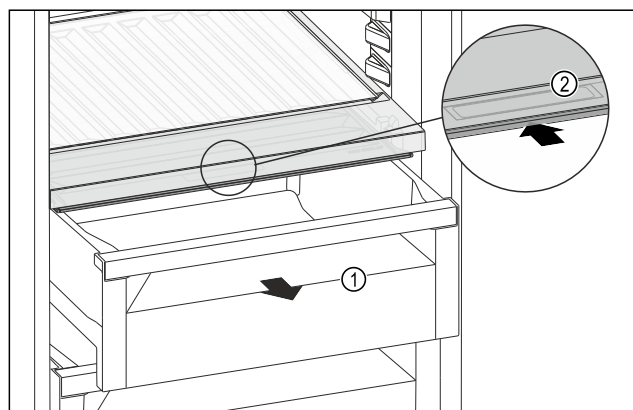

Fig. 134
- ▶ Pull out the drawer Fig. 134 (1).
- ▶ Grasp the recessed grip Fig. 134 (2) on the compartment lid and push the compartment lid backwards at the same time.